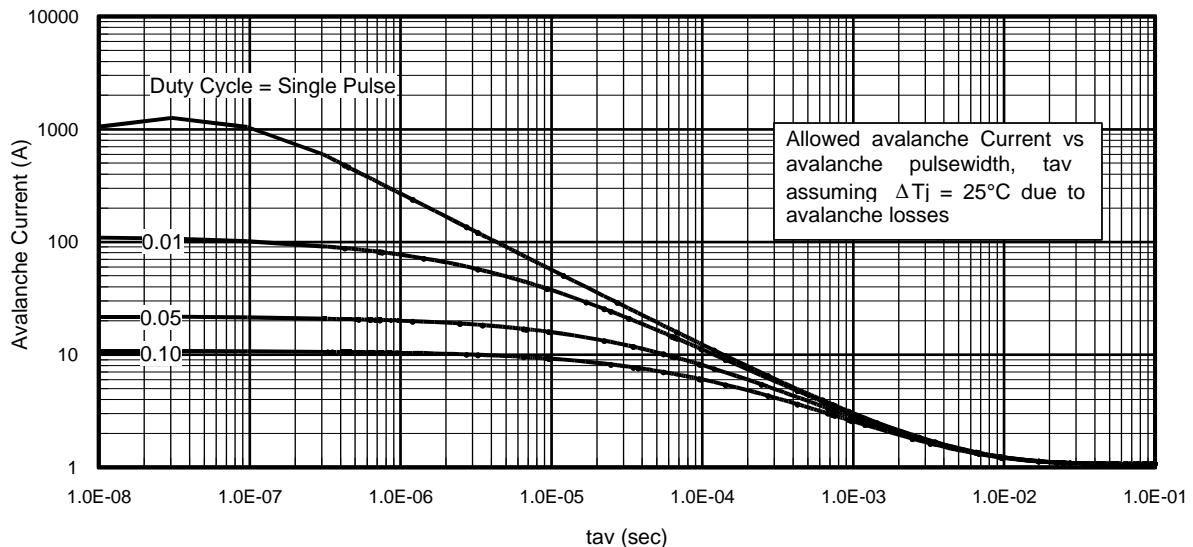

Fig 15. Typical Avalanche Current vs.Pulsewidth
**Notes on Repetitive Avalanche Curves , Figures 15, 16:
7. ΔT = Allowable rise in junction temperature, not to exceed $T_{j\max}$ (assumed as 25°C in Figure 15, 16).